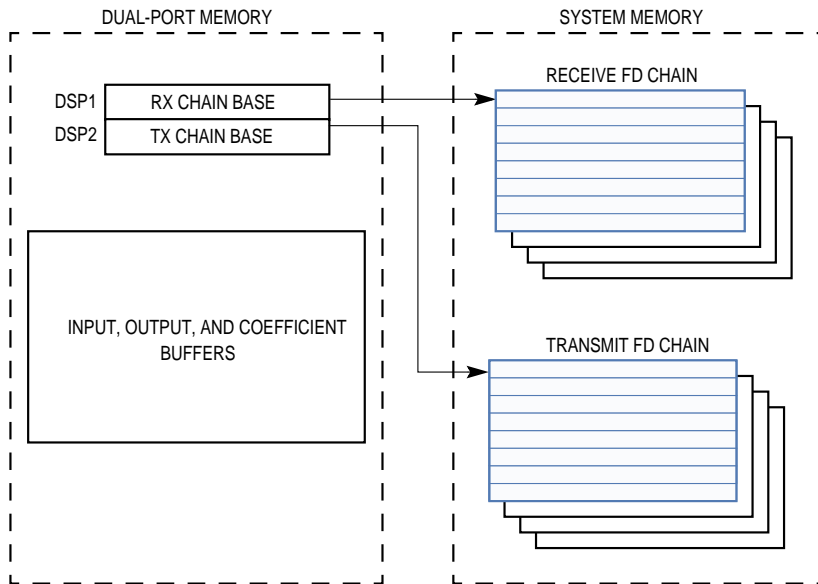

Figure 16-8. DSP Function Descriptor Operation
Similar to the serial communication controller buffer descriptor, a function descriptor (FD) is used to specify the DSP function and pass the parameters. A table of such descriptors forms a circular queue with a programmable length. The descriptors are stored in external memory. There are two function descriptor tables (also referred to as chains)—one for the transmitter and one for the receiver. The core prepares a chain of function descriptors in the system memory and a special host command notifies the RISC microcontroller when to execute the chain. A maskable interrupt is generated once the chain is completed. As illustrated in Figure 16-8, the pointer to the transmit (TX) chain must be written into the FDBASE field of the DSP2 parameter RAM and the pointer to the receive (RX) chain must be written into DSP1.
**16.3.3.1 DATA REPRESENTATION.** The inputs, coefficients, and outputs are represented by 16-bit, fixed-point, 2's complement numbers. A real number is represented by a single 16-bit half-word, as illustrated in Figure 16-8. Its value is between -1 (0x8000) to +1 (0x7FFF) and you must scale your data to fit this range. A complex number is represented by a pair of 16-bit half-words—one word for the imaginary component and one for the real component as shown in Figure 16-8. They must be scaled to fit in the -1 and +1 range.